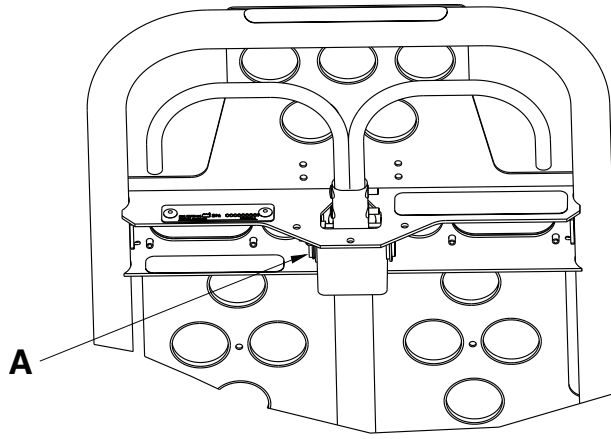

Figure 7 – Backrest gas cylinder
2. Using a 3/32" hex wrench, loosen the set screw (A) that secures the gas shaft to the yoke (Figure 7).